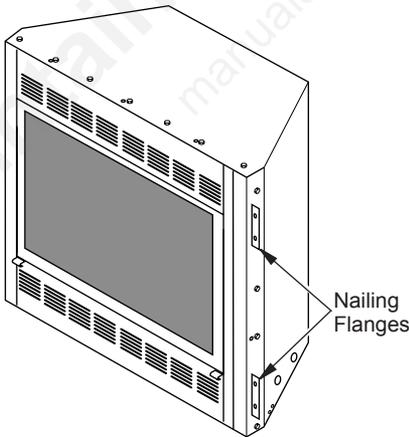

Figure 32 - Location of Nailing Flanges
10. Break off nailing flanges (see Figure 32) with hammer or pliers if applicable and place fireplace inside mantel opening. See mantel instruction sheet for specific installation instructions. Be careful not to scratch or damage hearth base or cabinet mantel.